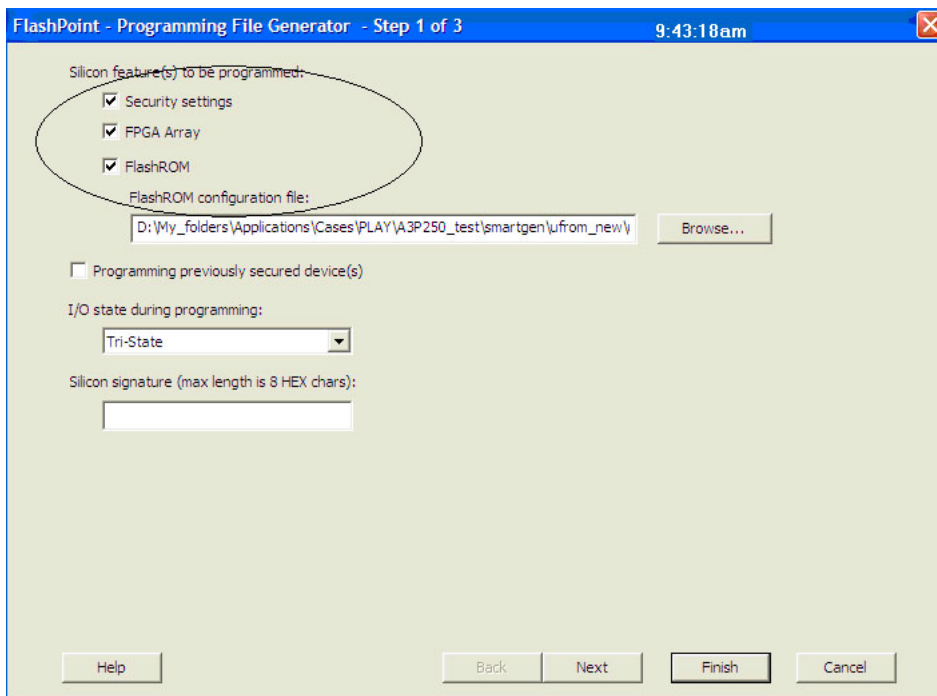

Figure 10-10 • All Silicon Features Selected for IGLOO and ProASIC3 Devices
1. Select the **Silicon features to be programmed** (Security Settings, FPGA Array, FlashROM, Flash Memory Blocks), as shown in Figure 10-10 on page 242 and Figure 10-11 on page 242. Click **Next**.